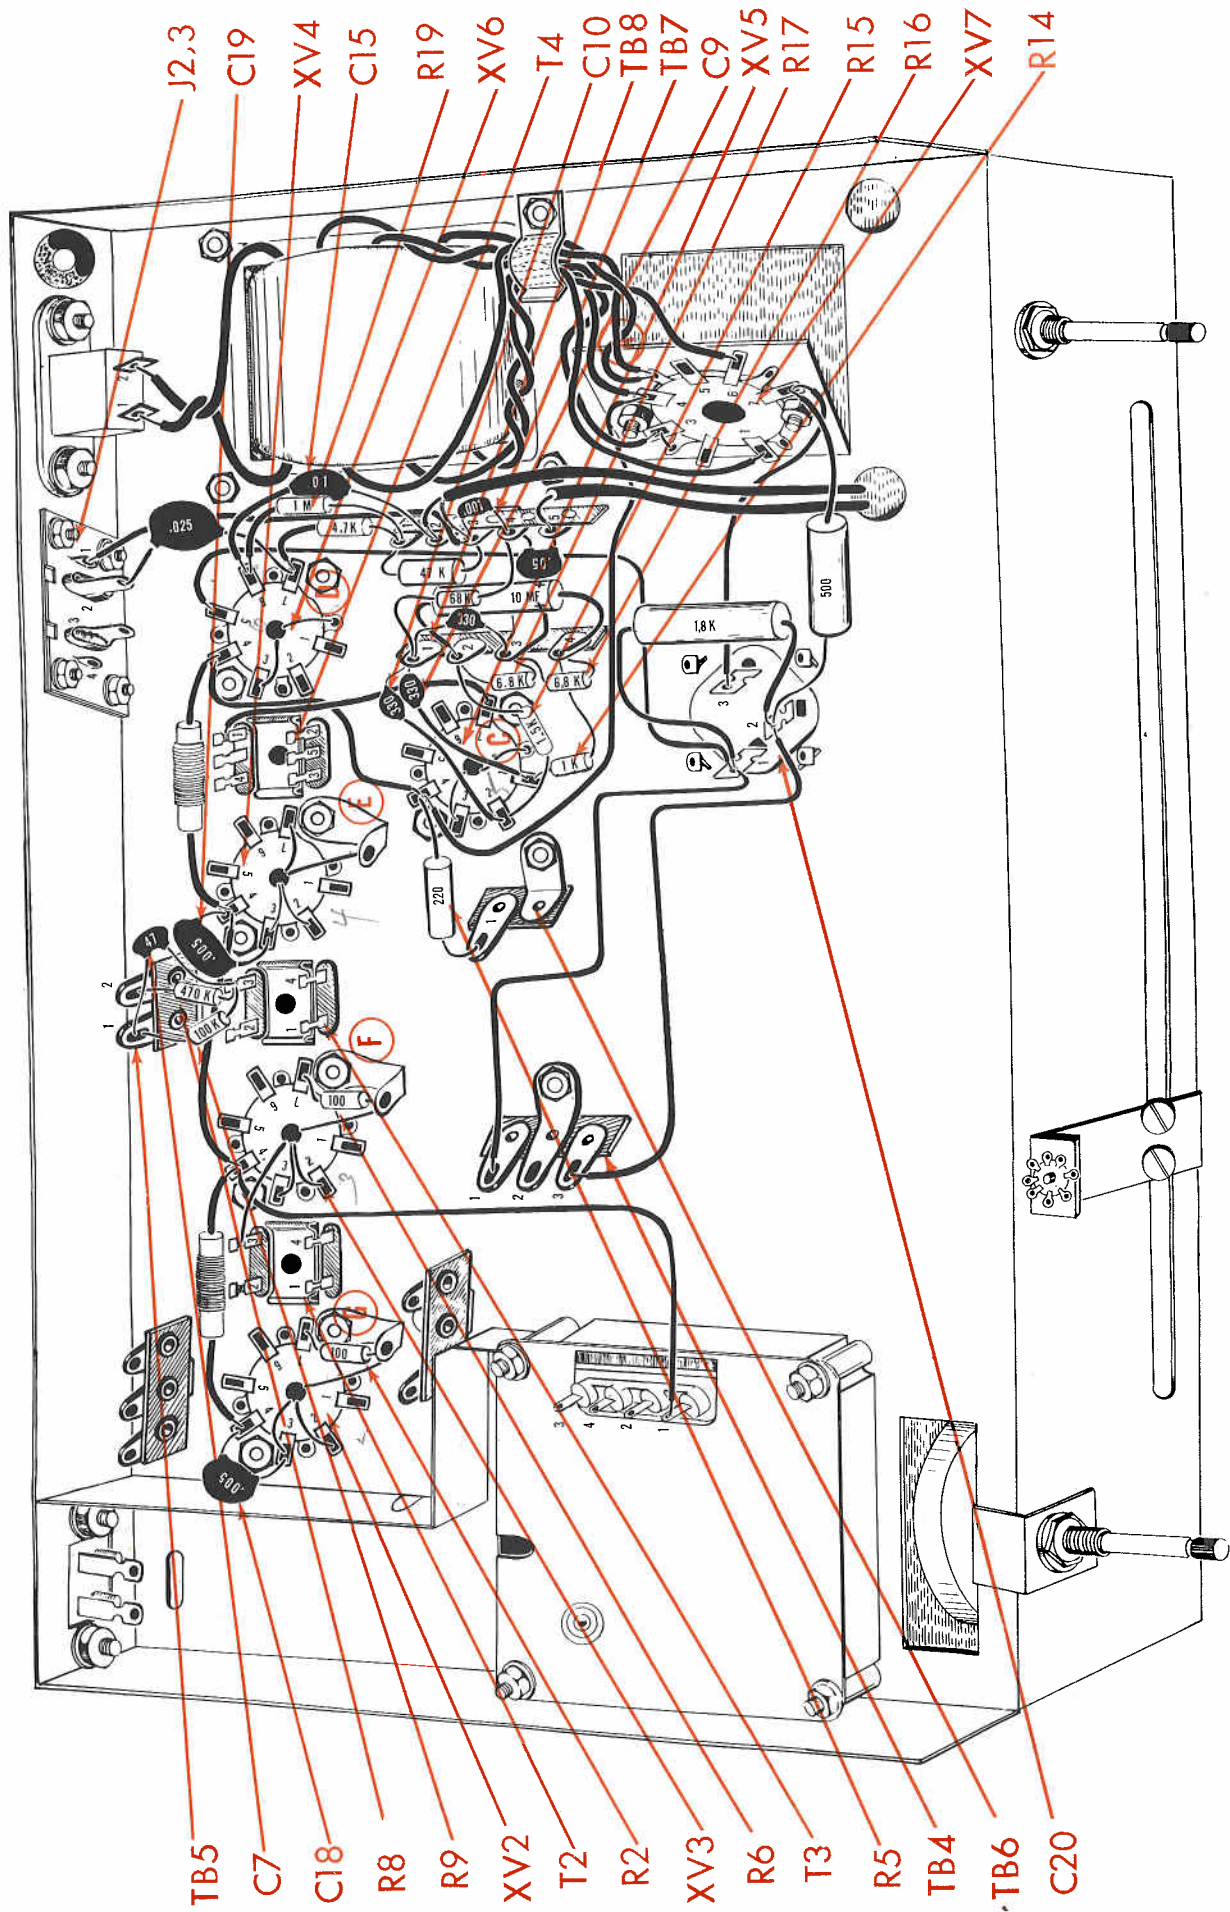

Fig. 4
1. (✓) Fig. 4. Cut both leads on a 1M $\Omega$  (brown, black, green, silver) resistor, R19, and both leads on a .01mfd (10K) disc capacitor, C15, to 1". Cover one end of the resistor and one end of the capacitor with a 1/2" piece of spaghetti on each. Connect this end of the resistor and capacitor to XV6-6 (S). Connect the other end of the resistor to TB7-1 (S) and the other end of the capacitor to TB7-2 (S).
2. (✓) Fig. 4. Connect a 3/4" piece of bare wire from center post (C) on XV5 to ground lug "C" (S) on XV5.
3. (✓) Fig. 4. Connect a 1/2" piece of bare wire from center post (S) on XV5 to XV5-3 (S).
4. (✓) Fig. 4. Connect a 3/4" piece of bare wire from center post (C) on XV6 to ground lug "D" (S) on XV6.
5. (✓) Fig. 4. Connect a 1/2" piece of bare wire from center post (S) on XV6 to XV6-3 (S).
6. (✓) Fig. 4. Connect a 1" piece of bare wire from center post (C) on XV4 to ground lug "E" (C).
7. (✓) Fig. 4. Connect a 1/2" piece of bare wire from center post (C) on XV4 to XV4-7 (S).
8. (✓) Fig. 4. Connect a 1/2" piece of bare wire from center post (C) on XV4 to XV4-3 (C).
9. (✓) Fig. 4. Connect a 1/2" piece of bare wire from center post (S) on XV4 to XV4-2 (S).
10. (✓) Fig. 4. Connect a 1" piece of bare wire from center post (C) on XV3 to ground lug "F" (C).
11. (✓) Fig. 4. Connect a 1/2" piece of bare wire from center post (C) on XV3 to XV3-3 (S).
12. (✓) Fig. 4. Connect a 1/2" piece of bare wire from center post (C) on XV3 to XV3-2 (S).
13. (✓) Fig. 4. Connect a 1" piece of bare wire from center post (C) on XV2 to ground lug "G" (C).
14. (✓) Fig. 4. Connect a 1/2" piece of bare wire from center post (C) on XV2 to XV2-3 (C).
15. (✓) Fig. 4. Connect a 1/2" piece of bare wire from center post (S) on XV2 to XV2-2 (S).
16. (✓) Fig. 4. Connect a 220 $\Omega$  (red, red, brown, gold) 1W, resistor, R5, from XV5-4 (S) to TB6-1 (C). Cut both leads to 1/2".
17. (✓) Fig. 4. Connect a 5000 mmf (.005 or 5K) disc capacitor, C19, from XV4-4 (S) to XV4-3 (S). Cut both leads to 1/2".
18. (✓) Fig. 4. Connect a 5000 mmf (.005 or 5K) disc capacitor, C18, from XV2-4 (S) to XV2-3 (S). Cut both leads to 1/2".
19. (✓) Fig. 4. Connect a 1" piece of bare wire from center post (S) on XV3 to IF can, T2-3 (S).
20. (✓) Fig. 4. Connect a 5 1/2" piece of red wire from C20-2 (S) to TB4-3 (C).
21. (✓) Fig. 4. Connect a 6" piece of red wire from C20-1 (S) to TB4-1 (C).
22. (✓) Fig. 4. Connect a 6.8K $\Omega$  (blue, grey, red, silver) resistor, R16, from TB8-4 (C) to TB8-3 (C). Cut both leads to 1/2".
23. (✓) Fig. 4. Connect a 6.8K $\Omega$  (blue, grey, red, silver) resistor, R17, from TB8-2 (C) to TB8-3 (C). Cut both leads to 1/2".
24. (✓) Fig. 4. Connect a 1K $\Omega$  (brown, black, red, silver) resistor, R14, from XV5-1 (C) to TB8-4 (S). Cut both leads to 1/2".
25. (✓) Fig. 4. Connect a 2" piece of white wire from XV5-7 (S) to ratio detector can, T4-1 (S).
26. (✓) Fig. 4. Connect a 330 mmf, disc capacitor, C9, from TB8-1 (C) to XV5-1 (S). Cut both leads to 3/4" and use 1/2" of spaghetti over the lead connected to XV5.
27. (✓) Fig. 4. Connect a 330 mmf, disc capacitor, C10, from TB8-1 (C) to XV5-2 (C). Cut both leads to 3/4" and use 1/2" of spaghetti over the lead connected to XV5.
28. (✓) Fig. 4. Connect a 1.5K $\Omega$  (brown, green, red, silver) resistor, R15, from XV5-2 (S) to TB8-2 (C). Cut both leads to 3/4".
29. (✓) Fig. 4. Connect a 4" piece of black wire from J2, 3-1 (C) to TB7-3 (S).